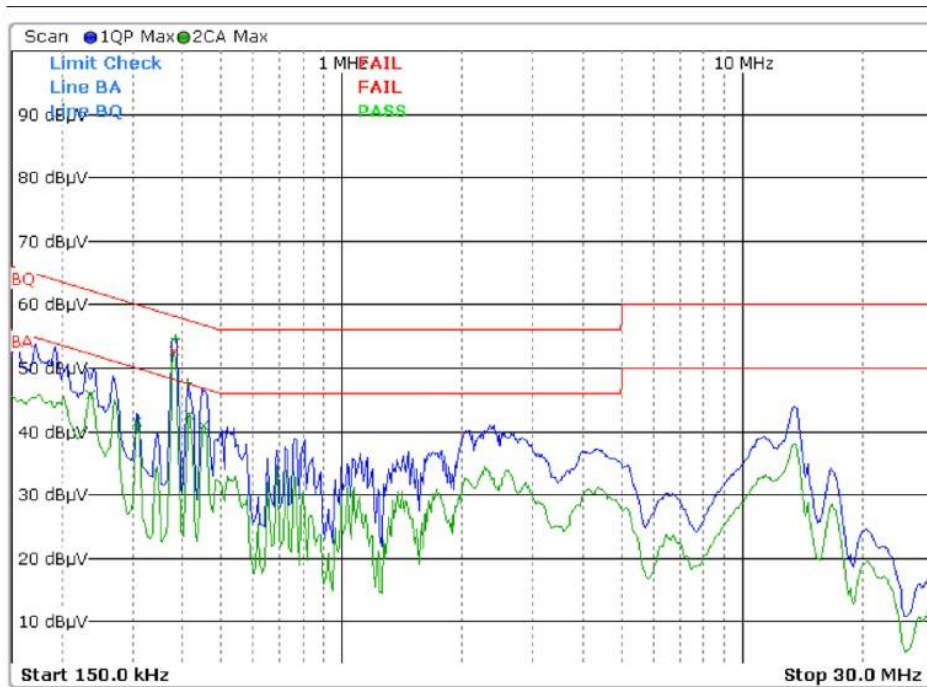

Fig. 2: An OEM 30-W Level VI external power supply.
**Case Study #3:** *An OEM's 30-W Energy (See Fig. 2) Star Level VI external power supply with green-mode variable-frequency fly-back topology.*